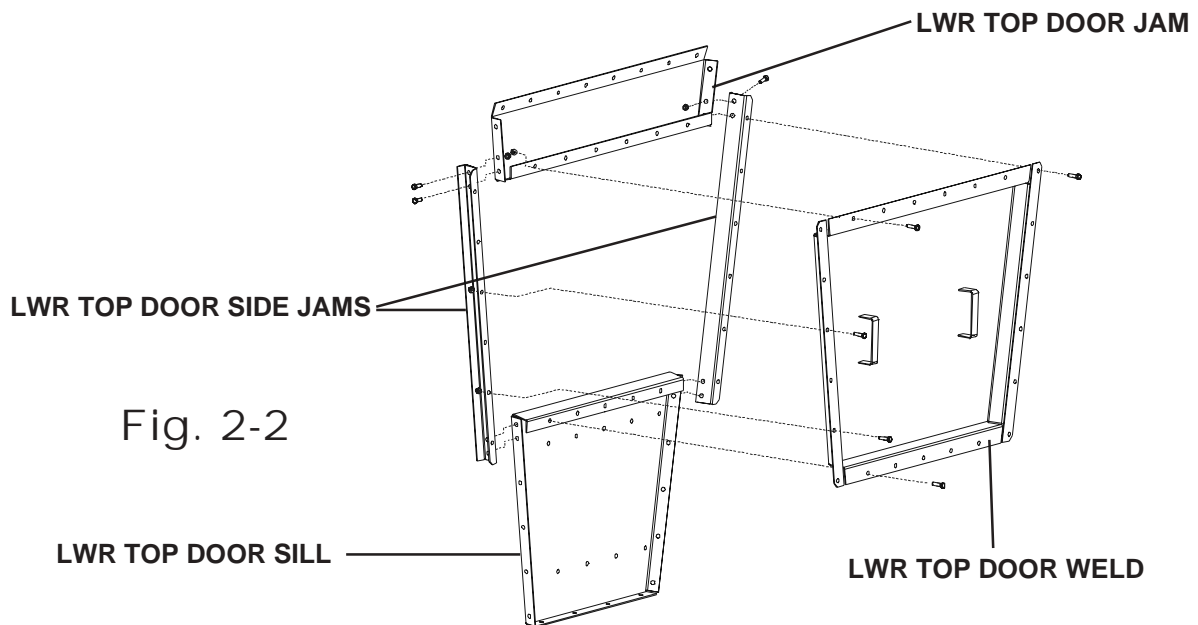

Fig. 2-2
5. **Two Lower Access Doors** are standard. General Installation is 180° apart, although almost any position could be considered. Install the **LWR TOP DOOR SILL**, **LWR TOP DOOR JAM** and two **LWR TOP SIDE JAMs** using 3/8" x 1" bolts with sealant to complete the door bolting frame. After door frame is complete attach it to the **LWR TOP UPPER** panel, where you want your door located. Do not install the **LWR TOP DOOR WELDment** at this time. (See Fig. 2-2)